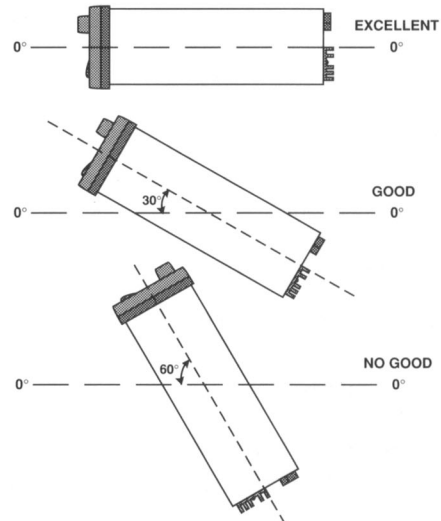
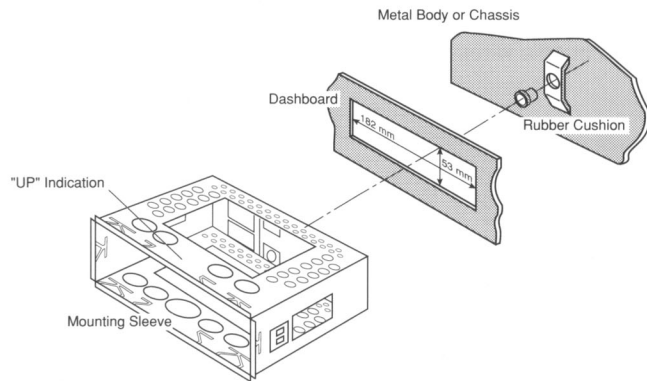

Figure 7. Mounting Less than 30° to Horizontal.
Figure 8. Bushing Support for the Mounting Sleeve.
4. In some vehicles, the firewall provides a bushing support for the rear of the sleeve. Check the firewall for this bushing support before installing the sleeve (see Figure 7). If the support is available, insert the rubber grommet (supplied) to the stud at the back of the sleeve and slide the sleeve into place as shown in Figure 8.
5. Secure the mounting sleeve to the dashboard by bending the flanges 90°. If necessary, use a screwdriver and/or pair of needle nose pliers (see Figure 7).